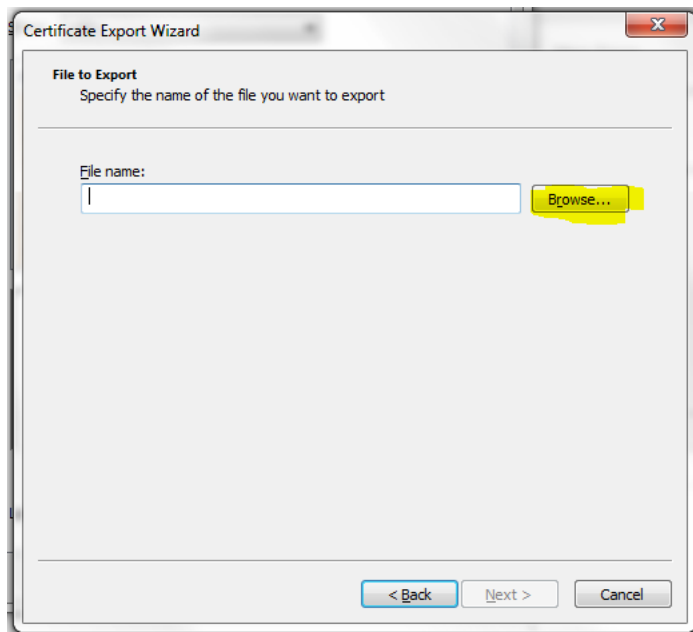

FIG. 467 Certificate Export Wizard - File to Export
8. Click **Browse** (FIG. 467):